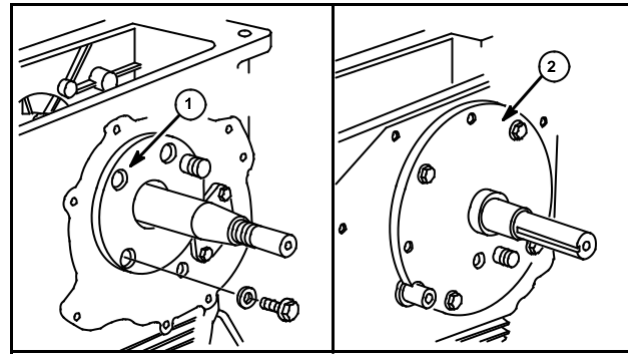

Fig. 22
Install bearing supports with new gaskets. Torque PTO side bearing support (2) bolts to 190 in. lbs. (21 Nm) and flywheel side bearing support (1) bolts to 90 in. lbs. (10 Nm), Fig. 22.